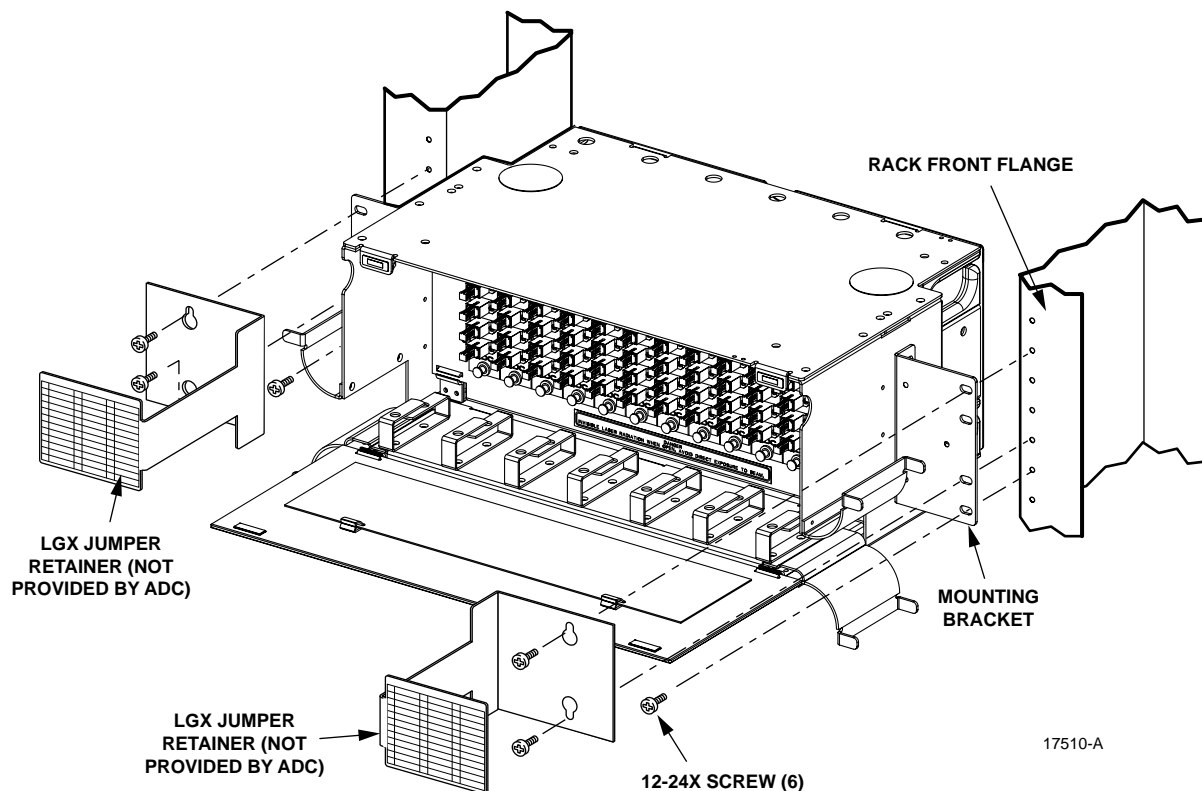

Figure 8. Installing the Connector Module (23-Inch Rack Shown)
2. Secure the mounting brackets to the rack front flange using six #12-24 mounting screws, as shown in Figure 8.
► **Note:** If LGX jumper retainers are being used, remove them and reinstall them with the chassis as shown in Figure 8. The jumper retainers are not an ADC product.